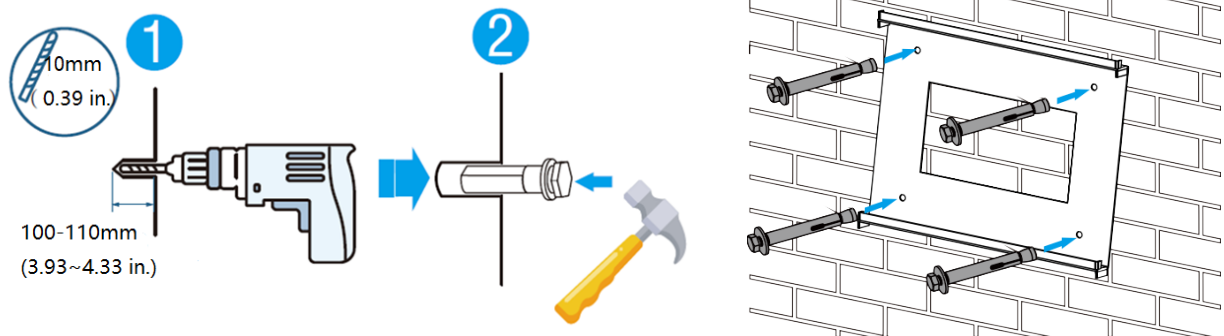
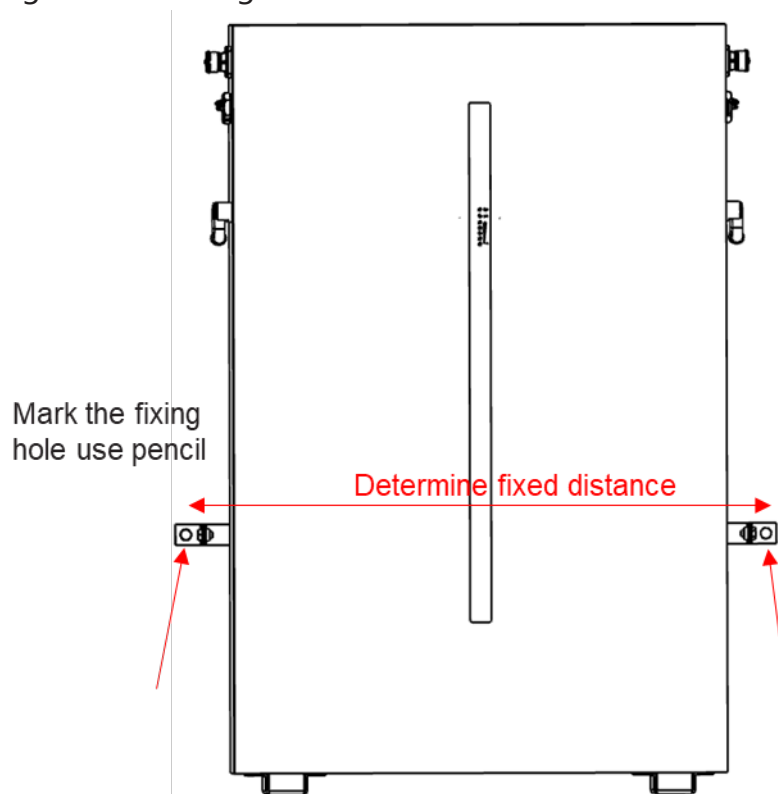

Figure 5-2
Figure 5-5
g) Choose the recommend drill head (as shown in Figure 5-2) to drill 4 holes on the wall, 100mm-110mm deep.
h) Use a proper hammer to fixing the hanging plate to the wall, fit the expansion bolt into the holes, as shown in Figure 5-2.
f) Stand the battery on the side of the wall, mark the location of the fixing hole, Choose the recommend drill head (as shown in below picture) to drill 2 holes on the wall,100-110mm deep, as shown in Figure 5-2 and Figure 5-5.
as shown in Figure 5-2.